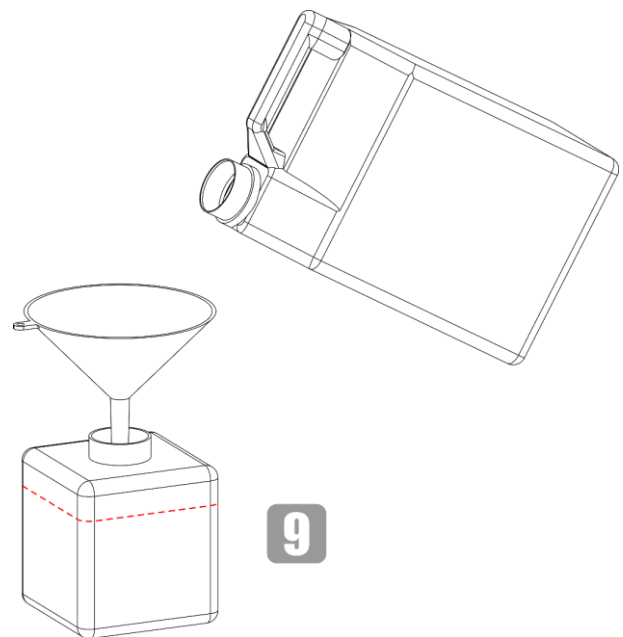

Fig. 16
- 09) Use a funnel to pour the fog fluid into the tank, as shown in Fig. 16.
- 10) Fill the fluid container with the recommended fog fluid ( Max. Fluid Tank Capacity 2,3 L). Make sure that you do not overfill. See Fig. 16 for more information.